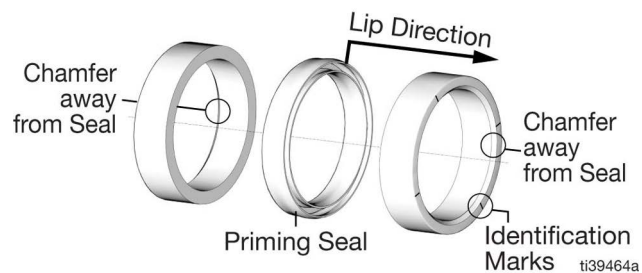

FIG. 27
12. Remove the priming seal (30) and the priming seal back-up rings (29) then replace with new parts from the seal repair kit (FIG. 27).
- The chamfer on the seal back-up ring must point away from the seal (FIG. 27).